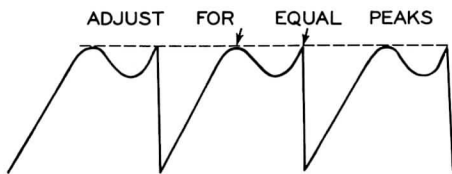

FIG. 20
5. Connect the vertical amplifier of the oscilloscope to terminal "C" of L37. Adjust the horizontal waveform slug (B4) for response similar to Fig. 20. While adjusting B4 keep the picture in sync by readjusting the horizontal hold control. Remove the oscilloscope connect from L37.